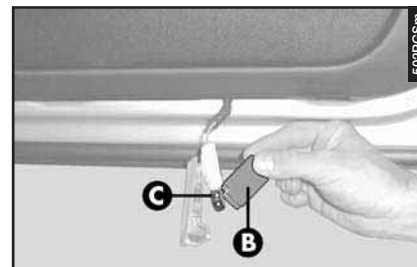

fig. 79
- Press on the side of the screen (**B-fig. 79**) in correspondence with the two fastening pins and turn it.
- Change the bulb (**C-fig. 79**) which is pressure-fitted.